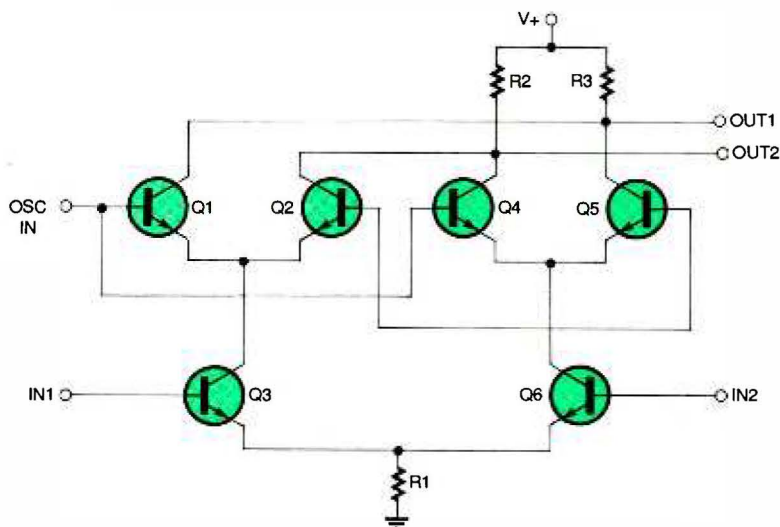

Fig. 2. The heart of the NE602: a Gilbert transconductance cell used for the double-balanced mixer.
Heart of the NE602. Because the NE602 contains both a DBM and a local oscillator (LO), it can be used as the entire front-end of a radio receiver. Figure 2 shows a partial view of the internal circuit of the heart of the NE602: the double-balanced mixer stage. That configuration is known as a Gilbert transconductance cell. It consists of a pair of cross-coupled differential amplifiers. One feature of the design is that it offers a very good